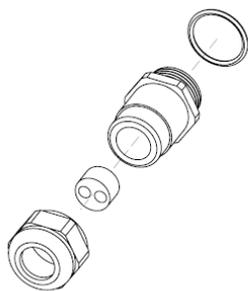

Figure 4 The XT-1 M20 cable gland with insert for 2 cables
1. Select and use the M20 cable gland insert corresponding to the number of cables required. The cable gland can be used with one cable (6-12 mm) or by using the supplied insert with two cables (2-6 mm), see Figure 4.